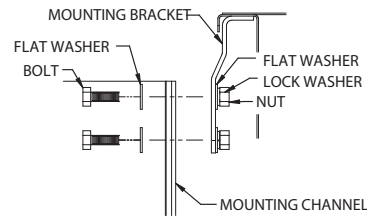

Figure 20 - Mounting Channel Installation
2. Use 3/8" flat washers, lock washers and nuts to secure the mounting channel to the bracket, as shown in Figure 20.